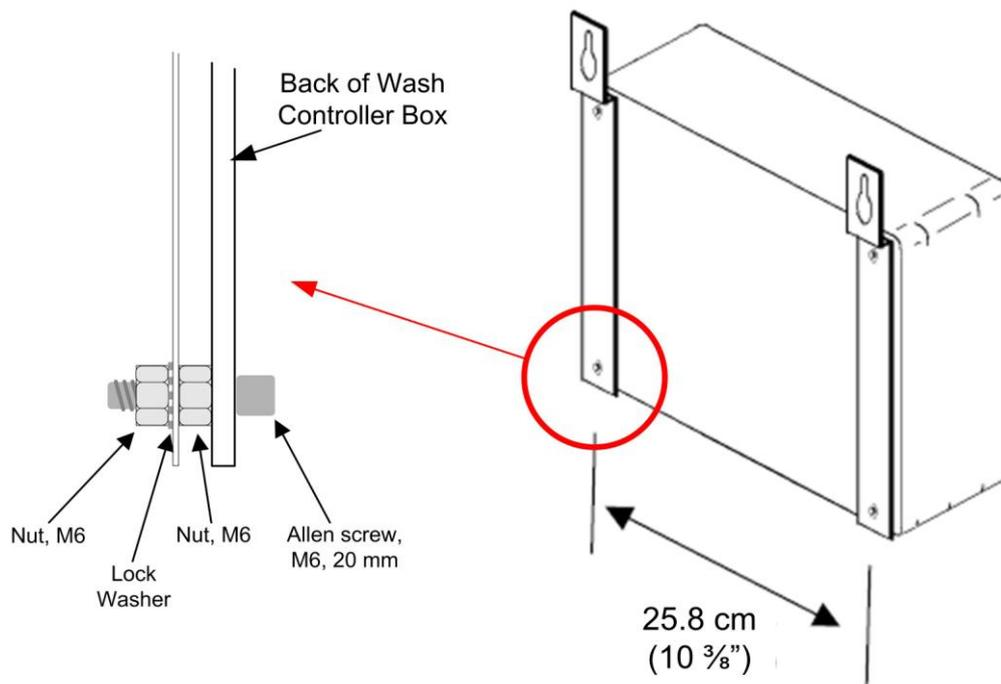

Figure 27: Mounting Wash Controller
2. Attach the mounting plates to the box as shown in Figure 27.